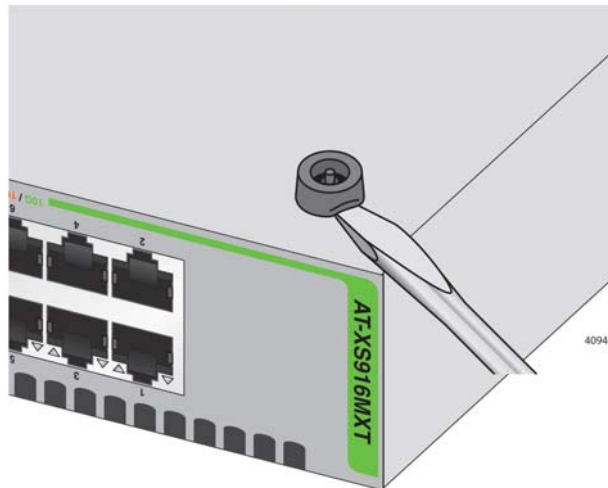

Figure 34. Removing the Plastic Feet from the Bottom Panel of the Switch
5. Use a small flat-head screwdriver to pry the four plastic feet from the bottom of the switch. Refer to Figure 34.